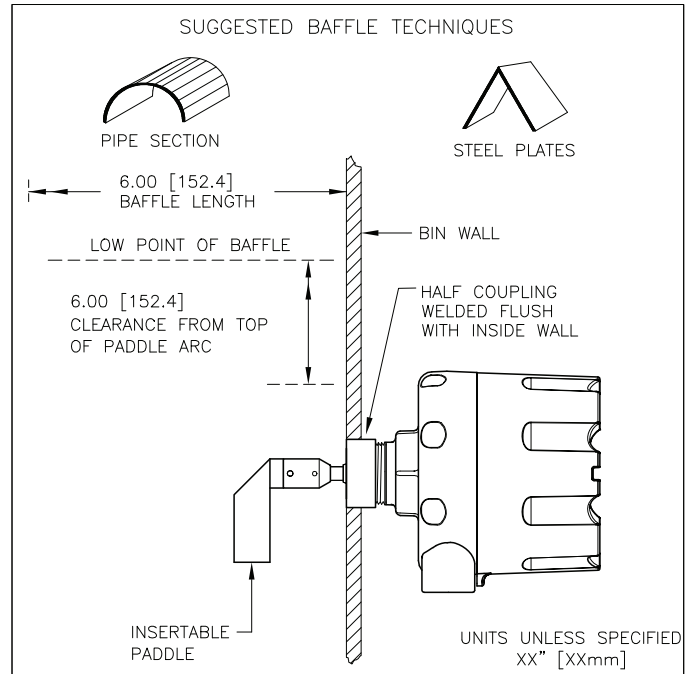

Figure 2
**Protective Baffles:** (See Figure 2)
- 1) Coupling Mounting** - Cut a hole into the vessel that corresponds to the outer diameter of the applicable pipe coupling. In side mount applications, position a half-coupling flush with the inside of the vessel and weld into place. In top mount applications, position a full coupling halfway into the vessel and weld into place. After greasing the mounting threads with anti-seize compound, thread the KA/KAX into the coupling and position the conduit entrance to prevent moisture infiltration. Attach paddle if applicable. (See Figure 2)